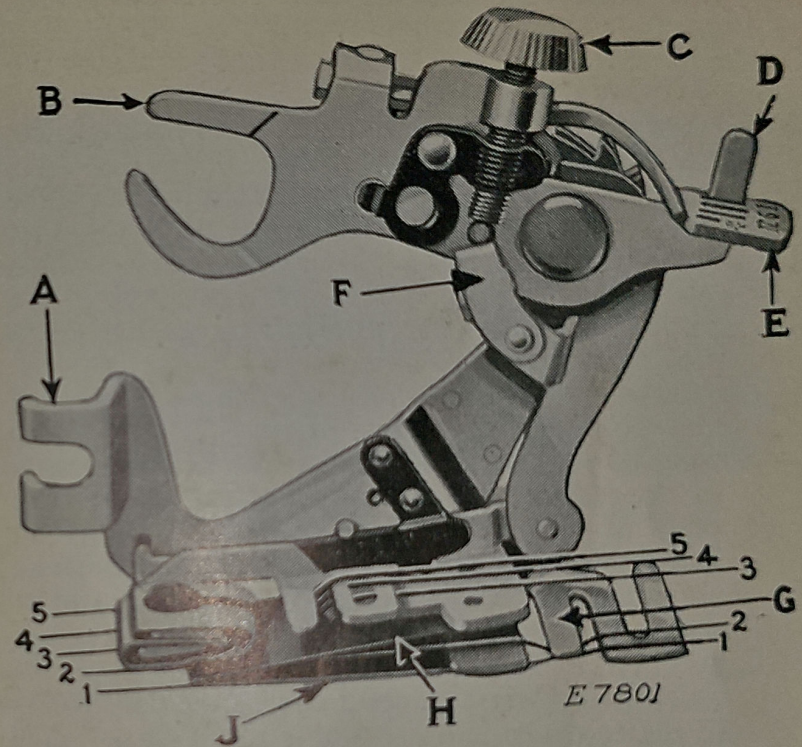
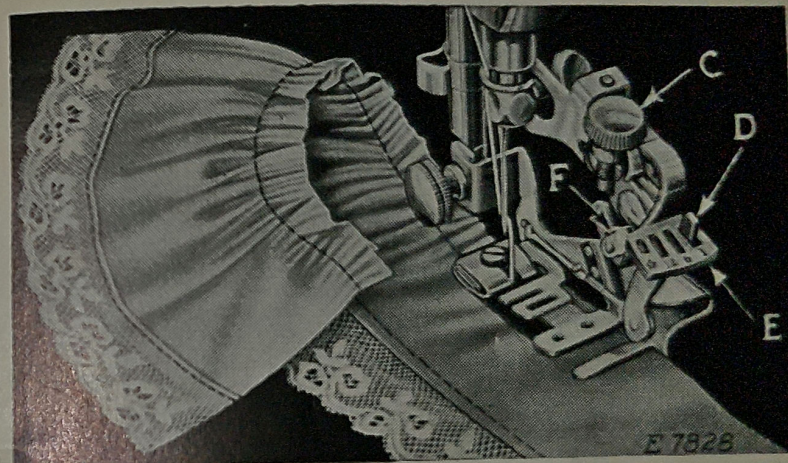
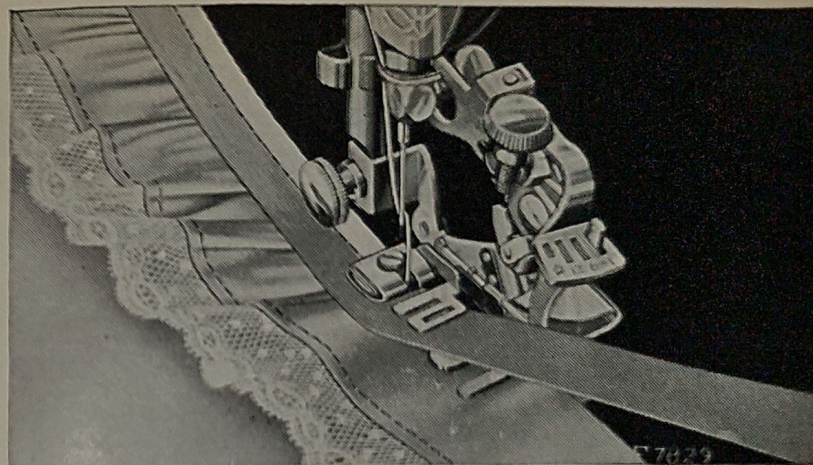
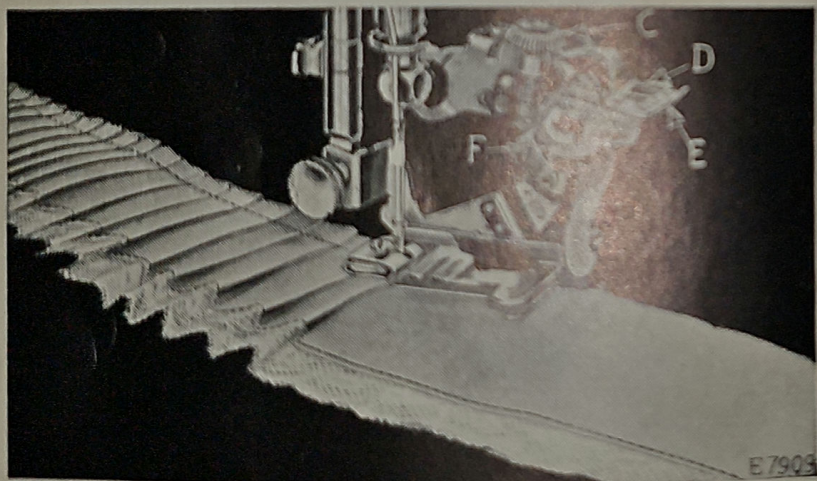

FIG. 41. THE RUFFLER AND ITS PARTS
FIG. 42
FIG. 44
FIG. 46
Lines 1, 2, 3, 4 and 5 shown in Fig. 41 indicate where the material is to be placed for various operations, as follows:
Refer to Fig. 41 when inserting the material in the ruffler.
(SEE REFERENCES IN FIG. 41)
Raise the needle bar to its highest point and remove the presser foot. Attach the ruffler foot (A, Fig. 41) to the presser bar by means of the thumb screw, at the same time placing the fork arm (B, Fig. 41) astride the needle clamp as shown in Fig. 42.
The adjusting finger (F, Fig. 42) is not intended for gathering and should be moved forward or away from the needle, as shown in Fig. 42.
Raise the adjusting lever (E, Fig. 42) and move it to the left so that the projection (D, Fig. 42) will enter the slot marked "1" in the adjusting lever (E) when the lever is released. The ruffling blade will then move forward and back once at every stitch. Insert the material to be ruffled between the two blue blades, following the line 2 in Fig. 41. Draw the material slightly back of the needle, lower the presser bar and commence to sew.
To make fine gathering, shorten the stroke of the ruffling blade by turning the adjusting screw (C, Fig. 42) upwardly; also shorten the stitch. To make full gathering, lengthen the stroke of the ruffling blade by turning the adjusting screw (C) downwardly, also lengthen the stitch. By varying these adjustments, many pleasing varieties of work can be accomplished.
2, in Fig. 41. Place the garment to which the ruffle is to be attached, under the separator blade, following the line 1, in Fig. 41. Proceed the same as for gathering.
Insert the material to be ruffled between the two blue blades, following the line 2, in Fig. 41. Place the garment to which the ruffle is to be attached, under the separator blade, following the line 1, in Fig. 41. Place the material for the facing over the upper blue blade, as shown in Fig. 44, following the line 3, in Fig. 41. The facing may be straight or bias material. If the facing is to be on the right side of the garment, place the garment and
Insert the material to be ruffled between the two blue blades, following the line 2, in Fig. 41. This
The material for piping must measure about $\frac{1}{4}$ inch wide when folded in the centre and is usually cut on the bias. Place the piping material in the ruffler, following the line 4, in Fig. 41, with the folded edge of the piping to the right. The material to which the piping and ruffling are to be sewn should be folded on the edge and inserted in the ruffler, following the line 5, in Fig. 41.
Raise the adjusting lever (E, Fig. 46) and move it to the right so that the projection (D, Fig. 46)
will enter the slot marked "6" in the adjusting lever when the lever is released. The ruffling blade will then move forward and back once at every six stitches. To adjust the ruffling blade to make a plait once at every twelve stitches, place the adjusting lever (E, Fig. 46) so that the projection (D) enters the slot marked "12" in the adjusting lever. Insert the material to be plaited between the two blue blades, following the line (2, Fig. 41). The size or width of plaits is regulated by the adjusting screw
(C, Fig. 46) and the adjusting finger (F, Fig. 46). To make a wider plait, move the adjusting finger (F) back or toward the needle and turn the adjusting screw (C) downwardly. To make a smaller plait, turn the adjusting screw (C) upwardly. The distance between plaits is regulated by the length of stitch.